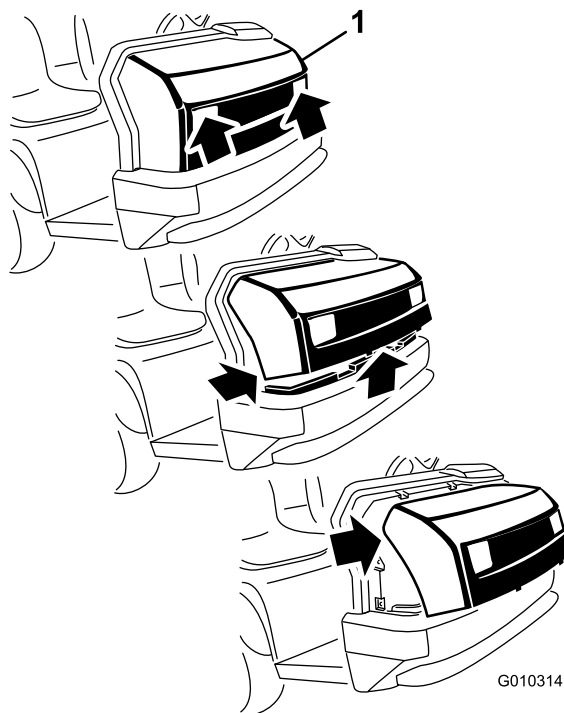

Figure 1
1. While grasping the hood in the headlight openings, lift up the hood to release the lower mounting tabs from the frame slots (Figure 1).
2. Pivot the bottom of the hood upward until the top mounting tabs can be pulled from the frame slots (Figure 1).
3. Pivot the top of the hood forward and unplug the wire connectors from the headlights (Figure 1).